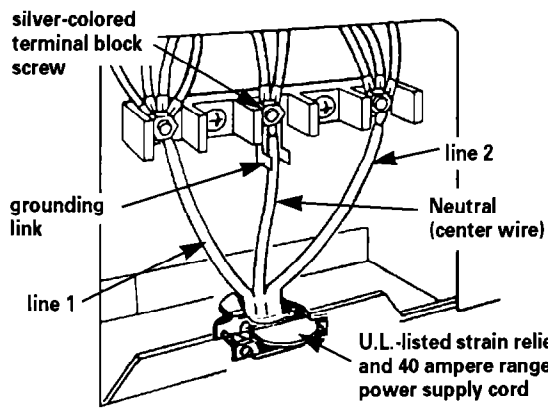

Figure 3
7. Use the brass terminal nuts attached to the terminal block cover to connect the neutral wire (center wire) to the silver-colored terminal screw on the terminal block. See Figure 3.
8. Connect the other two wires to outer terminal screws on the terminal block. See Figure 3.